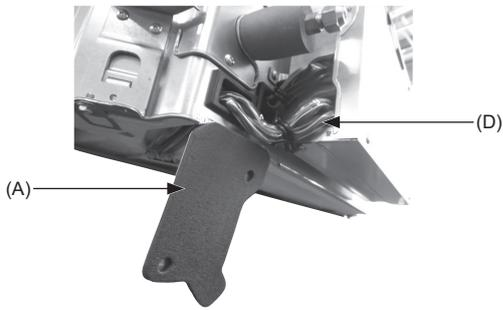

Fig. 5-4
- (1) Remove the two screws securing the wire cover of the main unit, and then open the cover.
- (2) Route the wires of the i-see Sensor and signal receiver through the wire inlets in the electric component box as shown in the diagram and around the bushings on the side of the main unit. (Fig. 5-4)